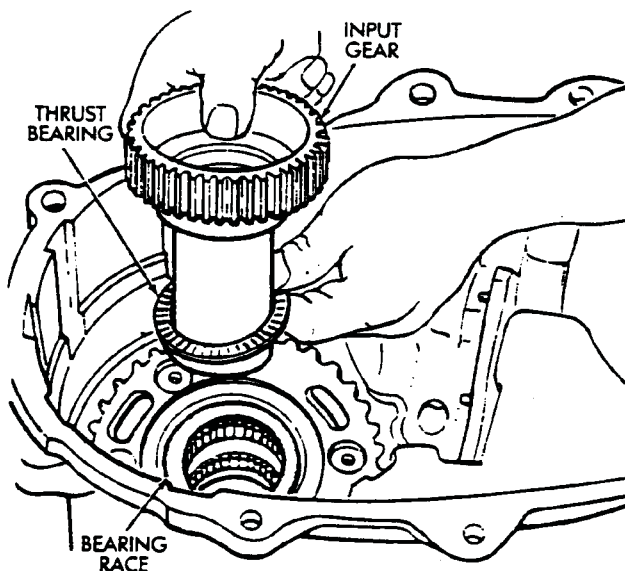

Fig. 4-22 Remove Input Gear, Thrust Bearing and Race
30. Remove the input gear and the gear thrust bearing and race (Fig. 4-22).